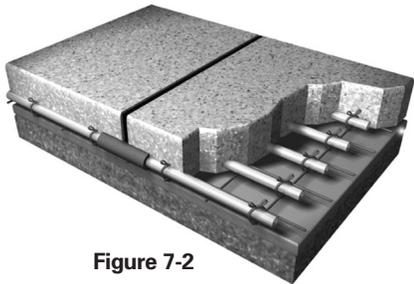

Figure 7-2
- If the tubing runs through an expansion joint, protect with a sleeve or dip below the joint. See **Figures 7-2 and 7-3**.